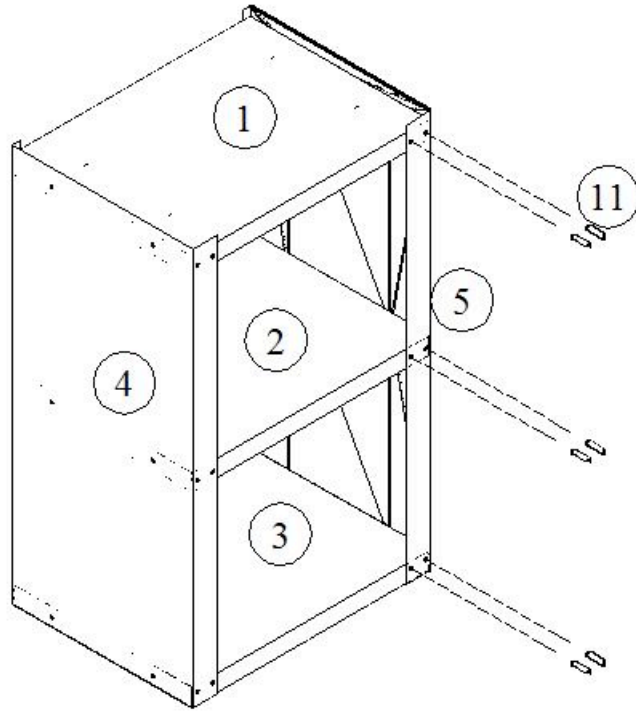

Figure 5
Attach 6 sheet metal screws (11) for front portion of right side panel (5). As shown in Figure 5